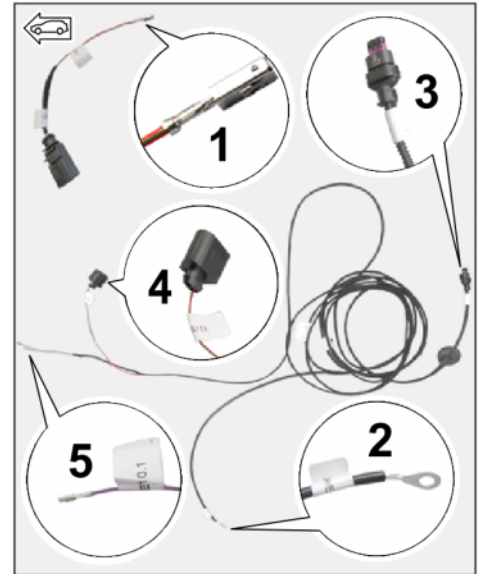

Figure 36
– Wire harness connections (⇒ *Figure 36*):